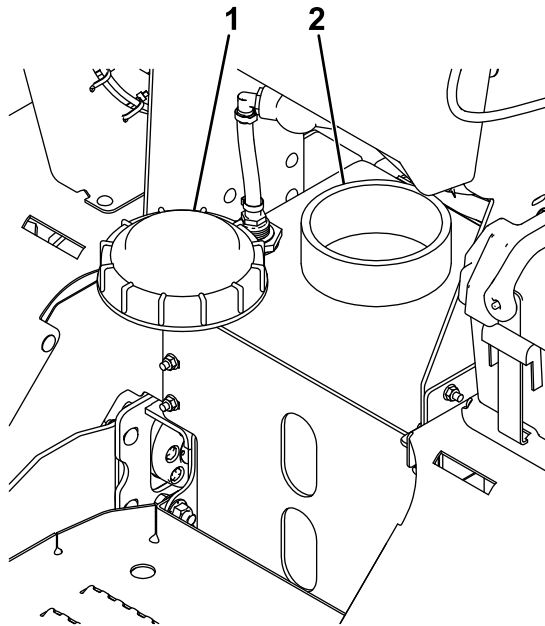

Figure 12
1. Clean around the tank cap (Figure 12).